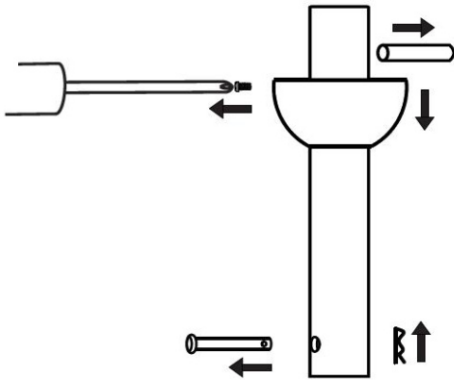

Fig. 4
1. Remove the ball joint and dowel pin by loosening the set screws from the down rod . **Fig.4**